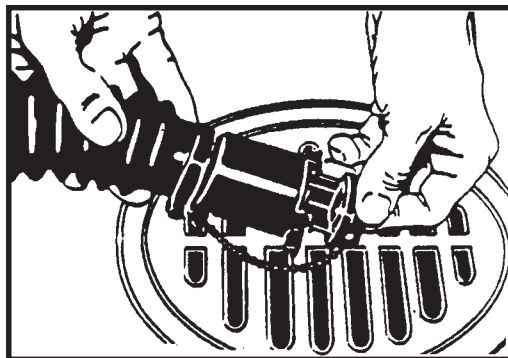

Figure 4
- d. Turn the valve handle to the left. Pull the handle out to open the drain. (Figure 4)